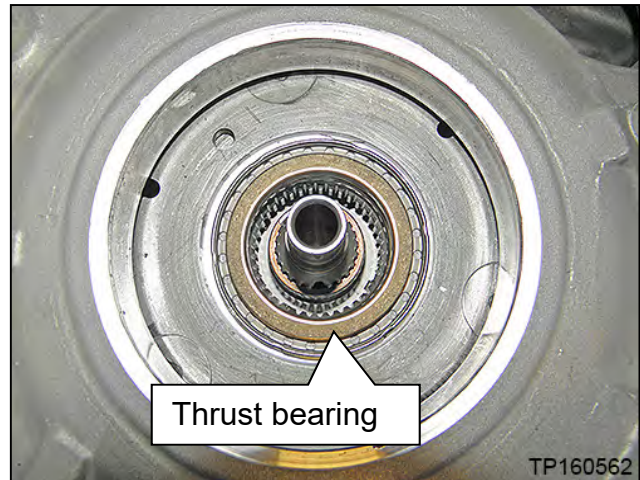

Figure 94
70. Remove the thrust bearing from the planetary carrier plate (Figure 94).